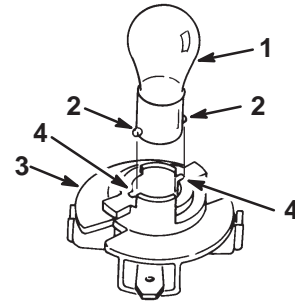

Figure 52
5. Push and rotate the bulb counterclockwise until it stops (approx. 1/4 turn) and remove the bulb from the bulb holder (Fig. 52).
1. The bulb has metal pins on the side of its base. Align the pins with the slots in the bulb holder and insert the base into the holder (Fig. 52). Push and rotate the bulb clockwise until it stops.